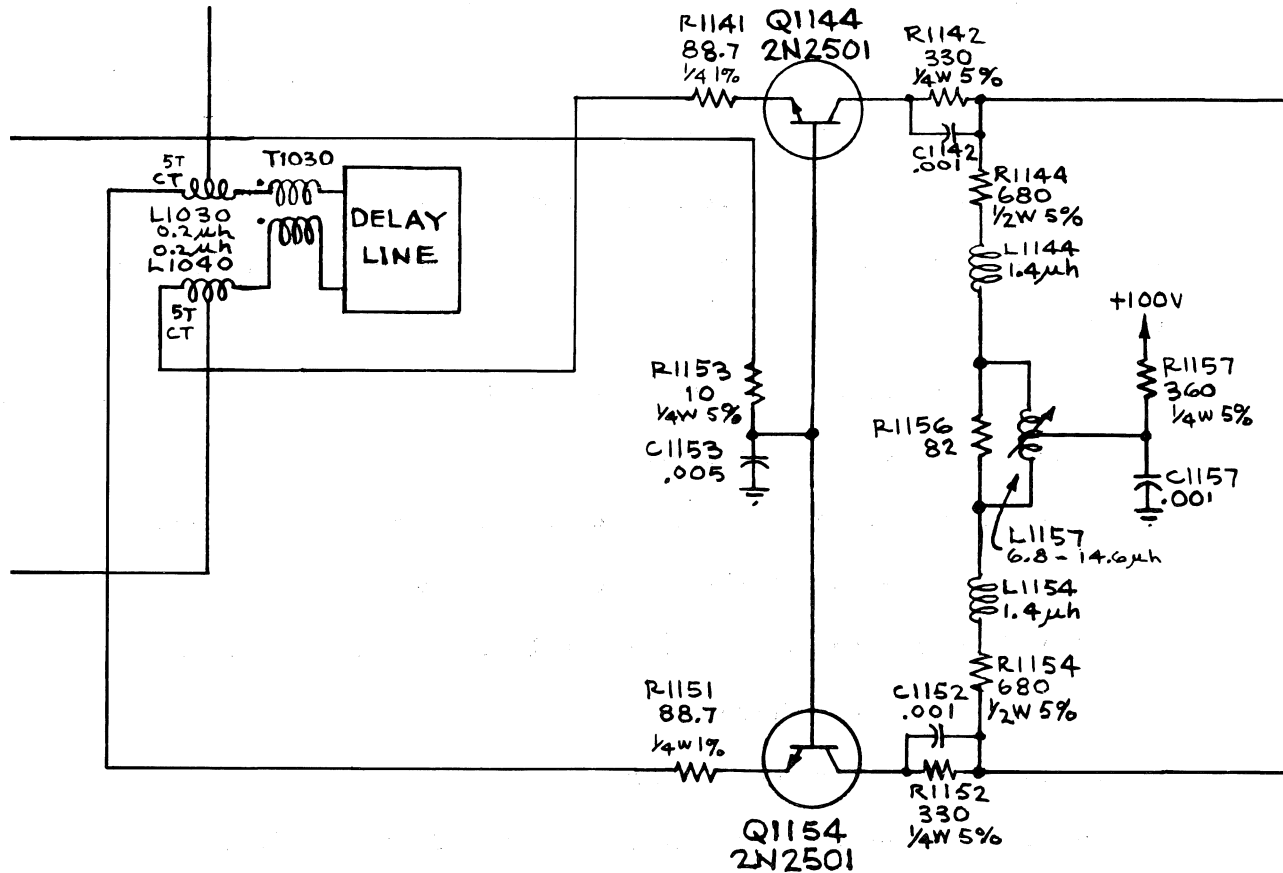

Figure 1-7
7. Trigger takeoff first stage. (Q1144 and Q1154) (Fig. 1-7)